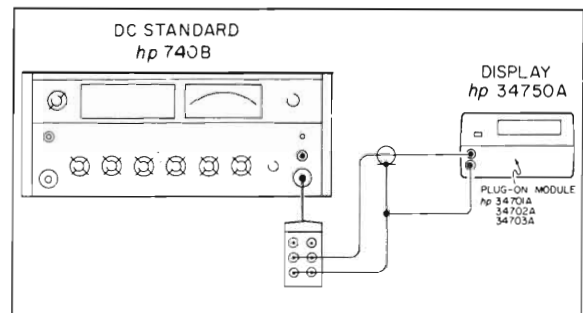

Figure 5-3. Zero Detect Comparator Offset Adjustment.
a. Connect the equipment as shown in Figure 5-3